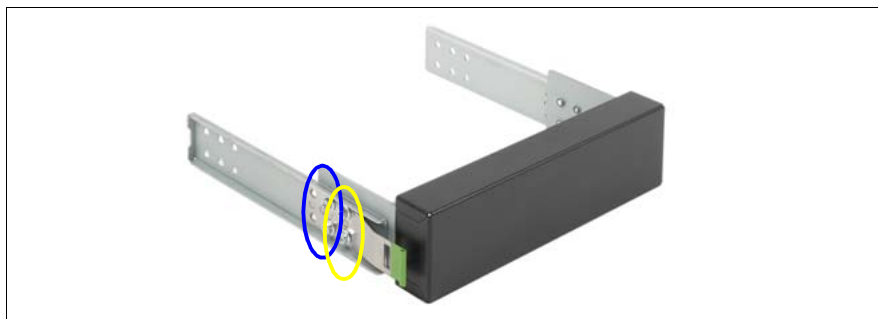

Figure 13: Removing EasyClick rails
- ▶ Detach the EasyClick rails from the dummy cover by removing the four screws on each side (see figure 13 on page 34).